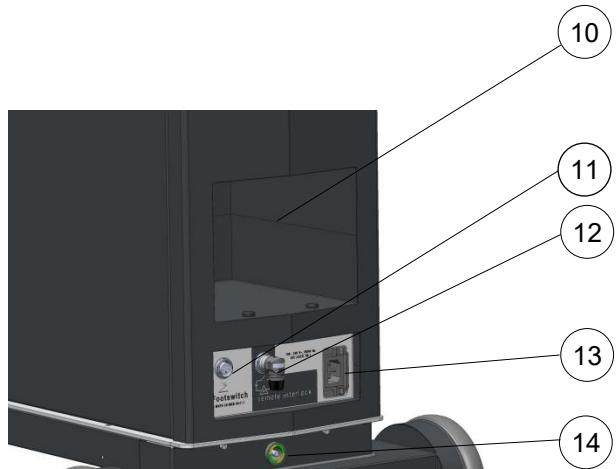

Fig. 3-2: Backside view
- To separate the ELIOS laser console from mains, disconnect the mains plug at the device (Fig. 3-2).
- The ELIOS laser console should be so arranged to enable the removal of the power supply plug on the device at all times (Fig. 3-2).
The foot switch must be plugged onto the connector for the foot switch (see Fig. 3-2). The foot switch is used to trigger the laser emission. Operation of the foot switch activates the laser emission. As soon as the foot switch is released, the laser emission is interrupted.
The ELIOS laser console is equipped with a connector for electrical potential equalization (see Fig. 3-2). The connection to an additional electrical potential equalization can be made by using a potential equalization cable.
The ELIOS laser console is equipped with a connector for a remote interlock, e.g. a door contact (see Fig. 3-2). If the contacts of the plug connector are open, then the laser emission is interrupted. Further information regarding the connection of a remote interlock to the ELIOS laser console can be obtained from MLase or from an authorized service partner.